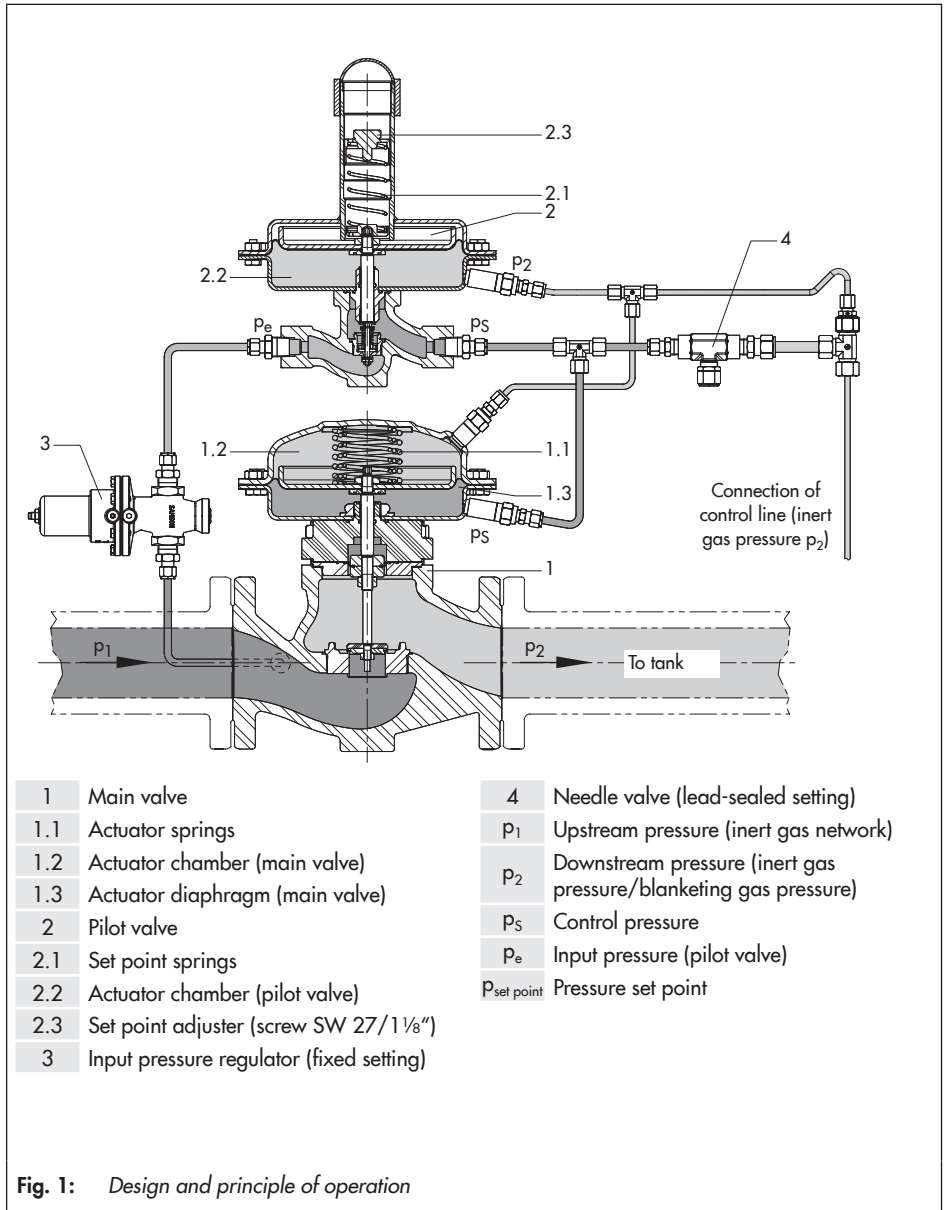

Fig. 1: Design and principle of operation
See Fig. 1 on page 7.
- Type and nominal size of the main valve, pilot valve and input pressure regulator (see Fig. 1).